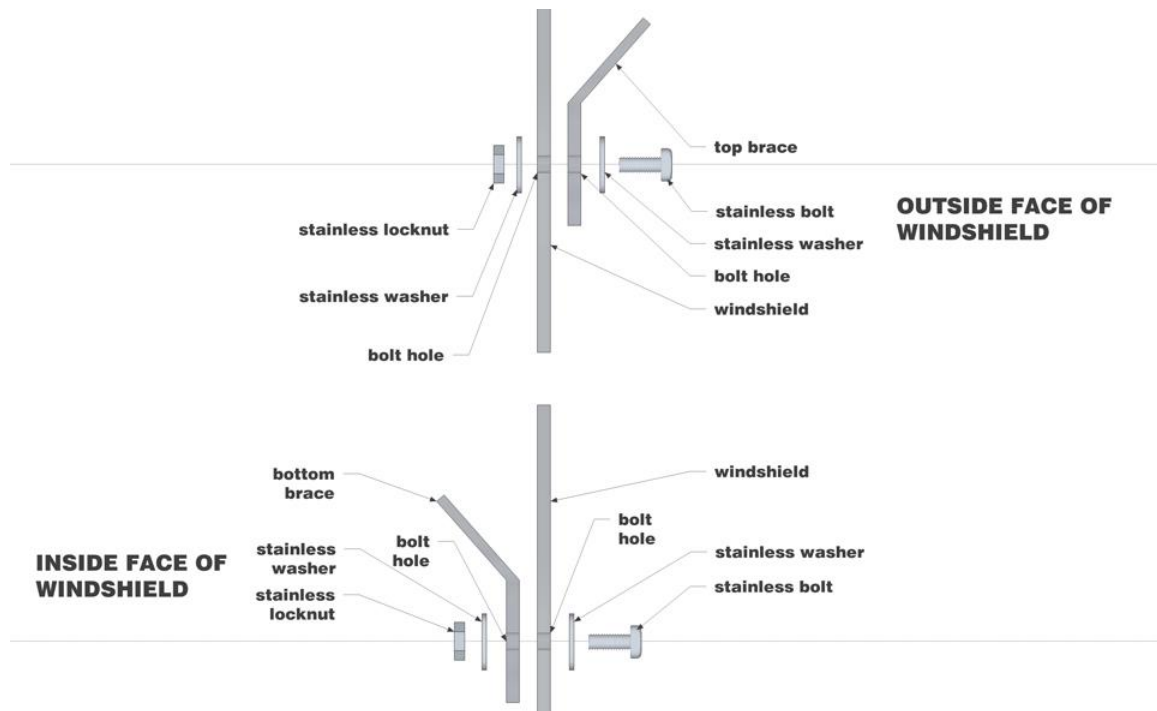
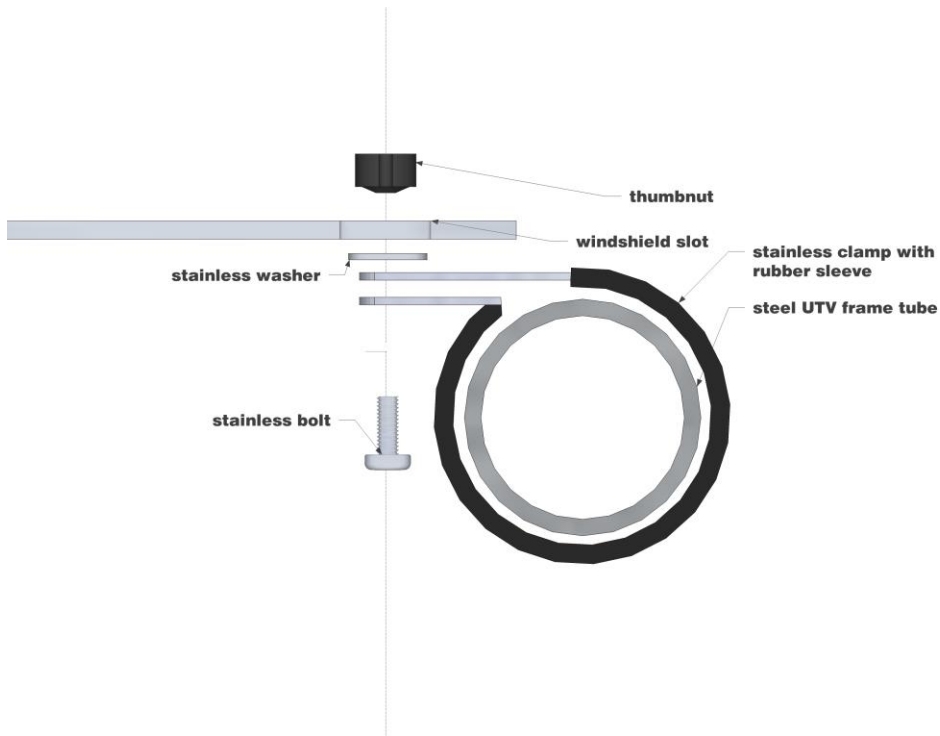

Fig.1
Fig.2
3. Now take the rubber gasket provided and install it along the bottom of the windshield. Take care to seat the gasket **fully** to the bottom edge contour. Install the top and bottom braces using (1) 1" stainless bolt, (1) stainless locknut, and (2) stainless washers per hole. On most models, the bottom brace is widest(installed **inside** the windshield), with the narrower brace used at the top(installed **outside** the windshield). Other models use the same brace top and bottom. The bolts should be installed through the front of the windshield with the bolt head facing forward, the locknuts on the back of the windshield facing rearward, with one washer under the bolt head and one washer behind the locknut at the rear. Install both braces using this sequence; even though the bottom brace is installed inside the windshield the bolt heads should still face forward, and hardware orientation remains the same as stated above(see fig.1). **Note: if you are installing with a Mammoth Designs cab enclosure, wait until you have fully installed the enclosure and fitted the windshield to bolt the upper brace to the windshield. The upper brace is bolted to the windshield on the outside through the front visor of the cab enclosure as shown in fig. 1 and should be the final step in the installation.** Now you are ready to place the windshield on your vehicle. With help, place the windshield onto the hood. The rubber gasket should temporarily hold it up, but be careful. The bent angle at the top of the windshield should go underneath the top bar of the roll cage. Near the top slot in the top windshield, take a 1-3/4" clamp and wrap it around the roll cage tube and then run a bolt with a washer through both ears of the clamp from the inside out(see fig. 2). Then run a thumbnut onto the bolt from the front. Repeat at all other slot locations.